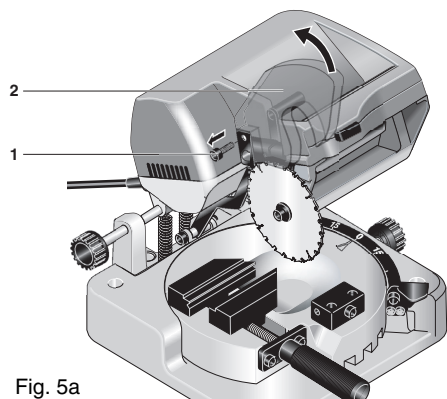

Fig. 5a
10.1 Replacing the saw blade (see fig. 5a and 5b): 11